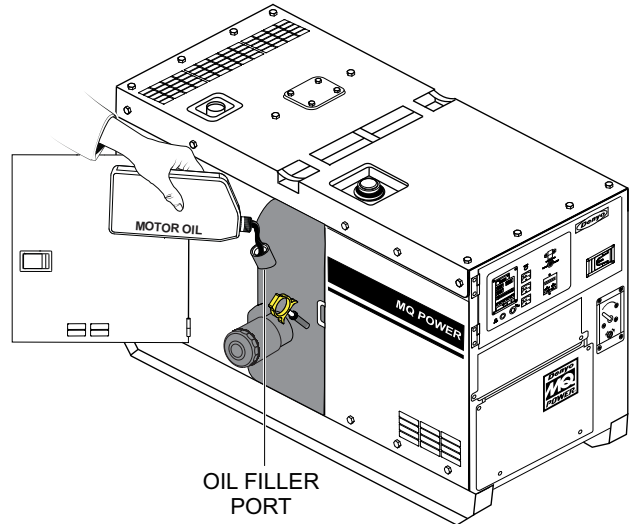

Figure 15. Engine Oil Filler Port
5. If the engine oil level is low (Figure 14C), remove the cap from the oil filler port (Figure 15) and fill to a safe operating level (max) as indicated by the dipstick (Figure 14A). Fill with recommended type oil as listed in Table 5. Maximum oil capacity is 9.0 quarts (8.5 liters).